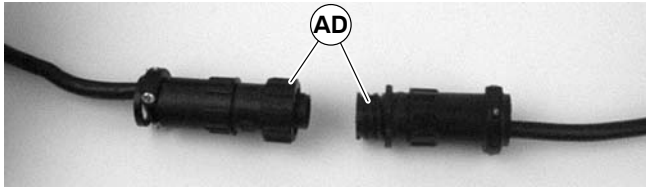

Figure 23
3. For DC variable speed motor, unplug motor cord at disconnect (AD of Figure 23).